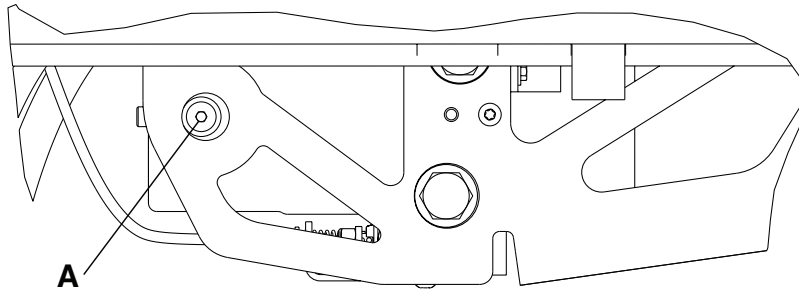

Figure 6 – Hydraulic assembly reservoir
3. Using a 3/16" hex wrench, remove the port plug (A) (Figure 6). Save the port plug.